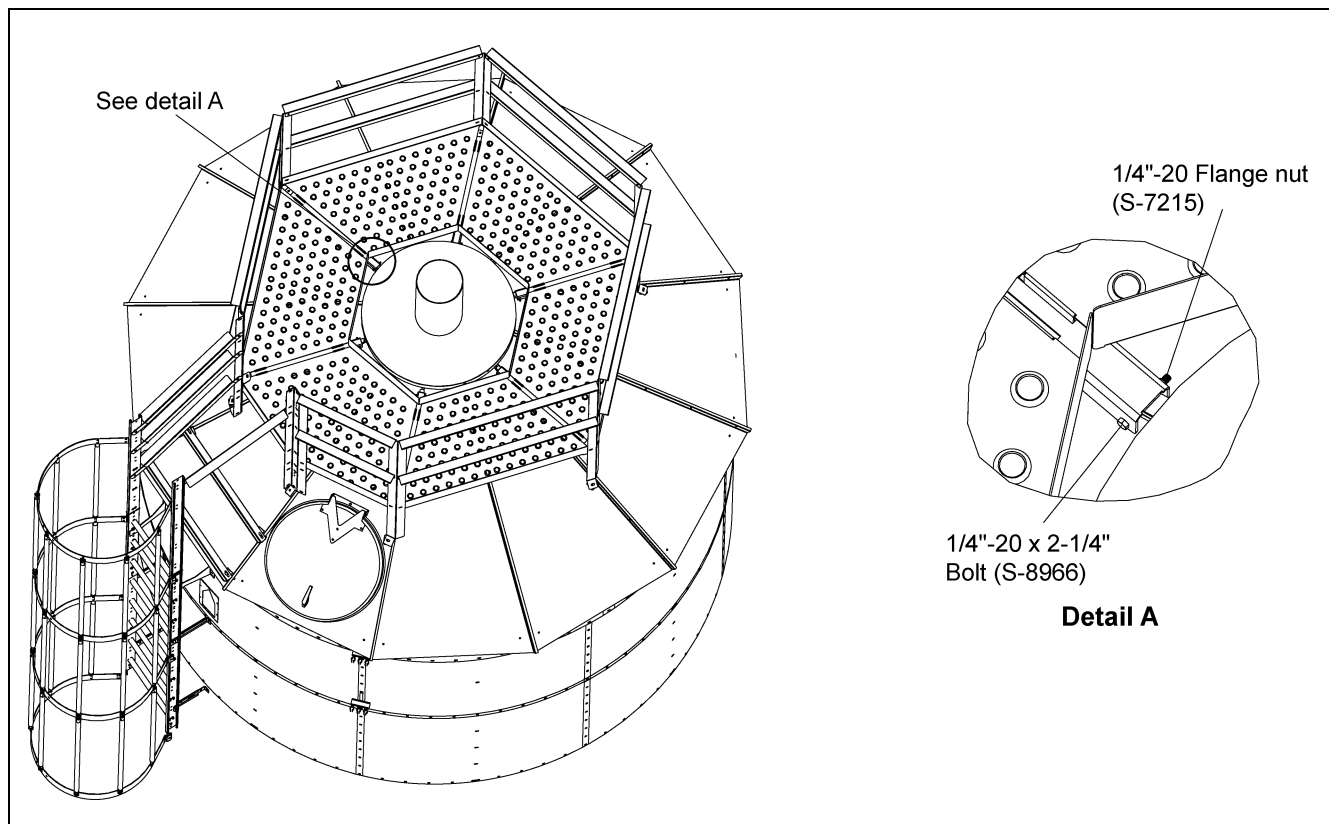

Figure 30
3. Fasten horizontal supports to the roof sheet using 1/4" hardware as shown in Figure 30.